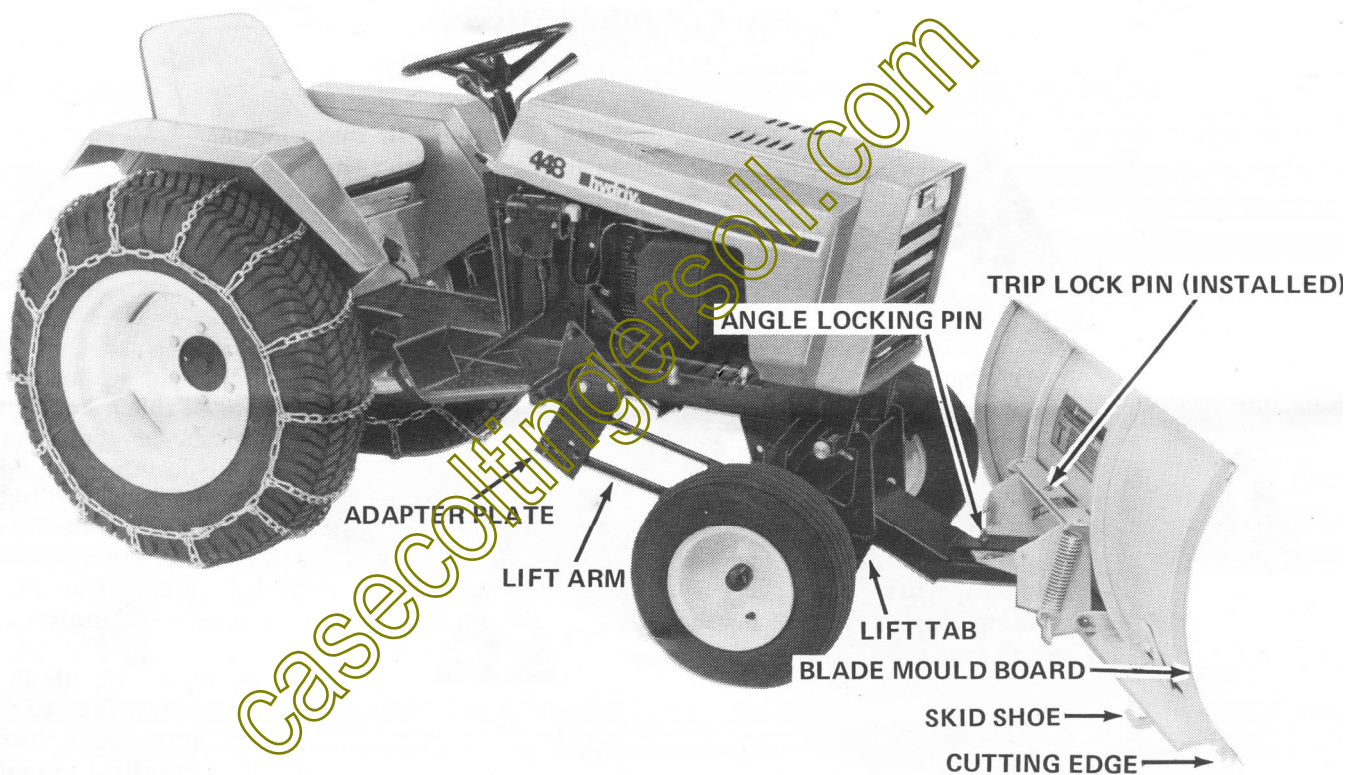

FIGURE 1
1. Install the trip lock pin to use the Utility Blade in a rigid position. See Figure 1.